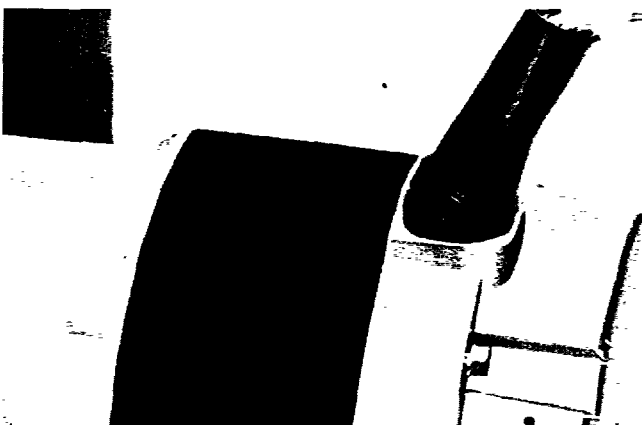

Fig. 10-24
- 7) Pass the wires out of the top of rear cover through the grommet, and fit the grommet into the hole in the rear cover. (See Fig. 10-24.)